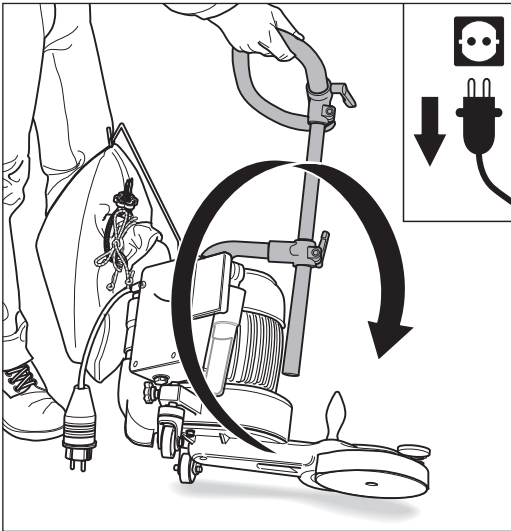

Fig. 76 Tilt the UNICO over to the **left-hand** side and set it down carefully.
- 3 Place the UNICO on its side by grabbing the machine by the handlebar on the right-hand side and then tilt the machine over to the **left-hand** side (Fig. 76) and set it down carefully.